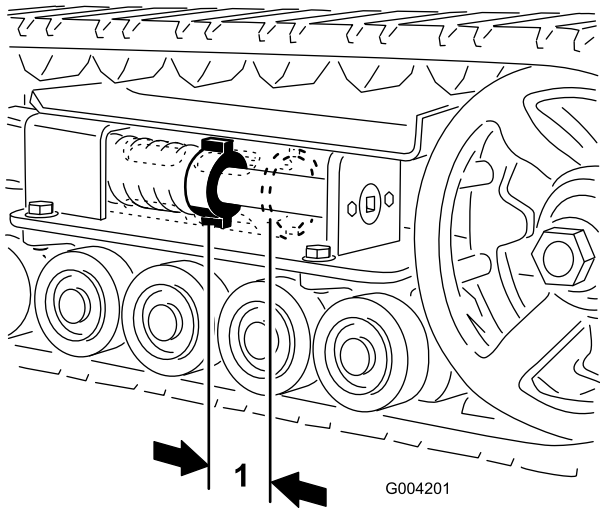

Figure 46
There should be 7 cm (2-3/4 inches) between the tension nut and the back of the tension tube (Figure 46). If not, adjust the track tension using the following procedure:
- Using a 1/2-inch drive ratchet, turn the tensioning screw counterclockwise until the distance between the tension nut and the back of the tension tube (Figure 46) is 7 cm (2-3/4 inches).
12. Turn the tensioning screw counterclockwise until the distance between the tension nut and the back of the tension tube (Figure 46) is 7 cm (2-3/4 inches).
18. Turn the tensioning screw counterclockwise until the distance between the tension nut and the back of the tension tube (Figure 46) is 7 cm (2-3/4 inches).